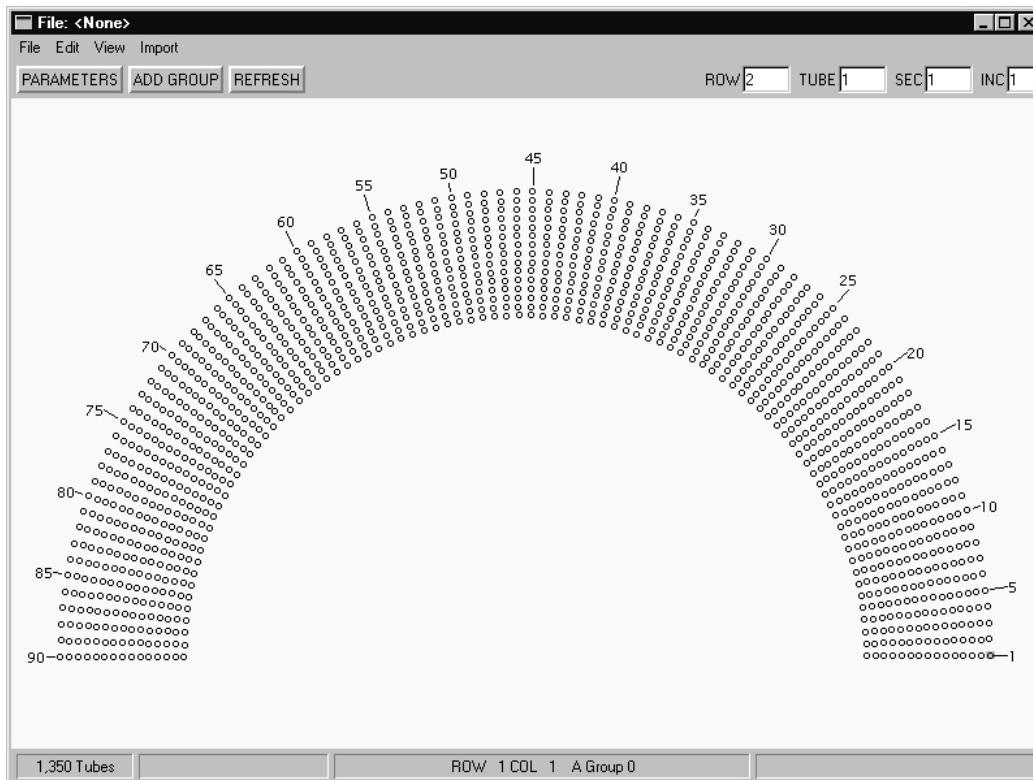
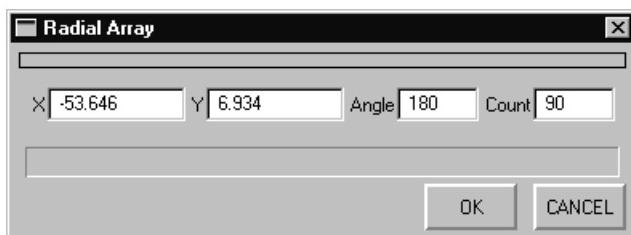

Figure 54. Radial Array Example
Figure 55. Radial Array Dialog
- **Popup | Radial Array:** This function allows the user to quickly create a *radial* tubesheet map like the example shown in Figure 54. To demonstrate this function, create a single row of tubes in a new group. On the main **MakeComp** window, right-click, then click **Radial Array** on the **Popup** menu. The **Radial Array** control dialog shown in Figure 55 appears. **Zoom Out (Ctrl+right-click)** and click a point on the window some distance from the first tube in the row (group). This establishes a center-point that the **Radial Array** will be drawn around. The **X** and **Y** values in the control dialog will automatically update and display the new coordinates of this point. In the **Angle** field, enter the desired angle or *arc* for the **Radial Array**. In the **Count** field, enter the number of rows to be duplicated within the *arc* specified and click **OK**. The new **Radial Array** appears. The settings shown in Figure 55 were used to create the **Radial Array** tubesheet map shown in Figure 54.